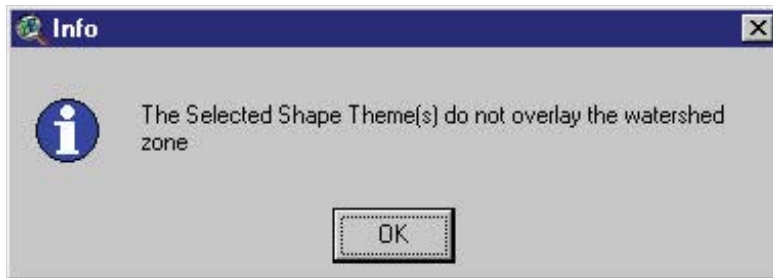

Figure 6.12
4. The *Load and Clip Land Use* process might return an unsuccessful report (Figure 6.12) if none of the selected theme(s), either grids or shape, overlay part of the watershed. Click **OK** and the process will be stopped.